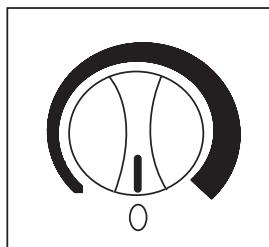

Fig.2
- To turn off the wine cooler, (no cooling) rotate the control knob to the "0" (off) position. See Fig. 2. Turn the control to the "OFF" (0) position to temporarily disconnect the cooling cycle. When the wine cooler is not to be used for long periods of time, disconnect from power and leave the door partially open.